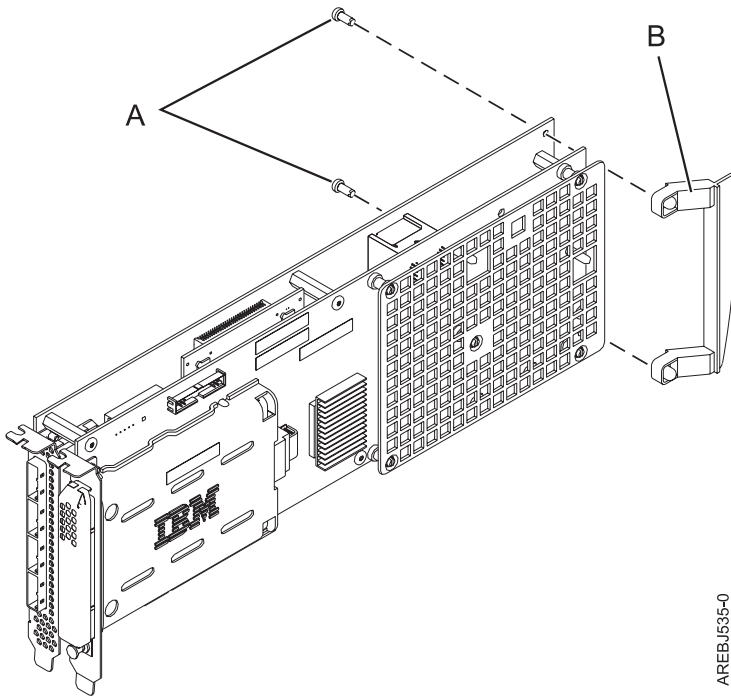

Figure 38. Cassette adapter handle attachment
- a. Remove the adapter handle **B** as shown in Figure 38.